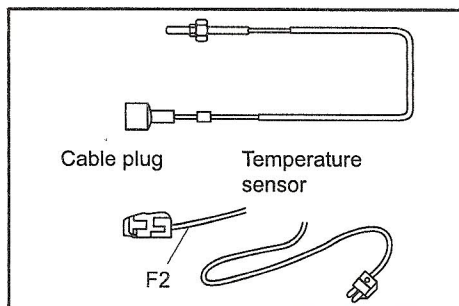

Fig. 05-09
- (2) Connect the sensor with a temperature gauge by using a wire F2 (Please see Fig. 05-09, 05-10).